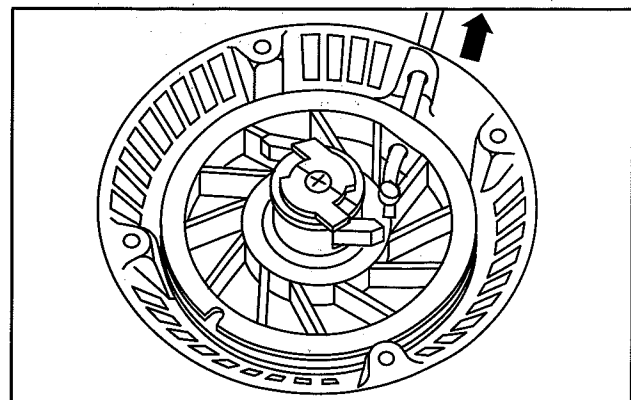

Fig. 6 – Install Rope
1. Insert rope through pulley and eyelet in housing, Fig. 6.